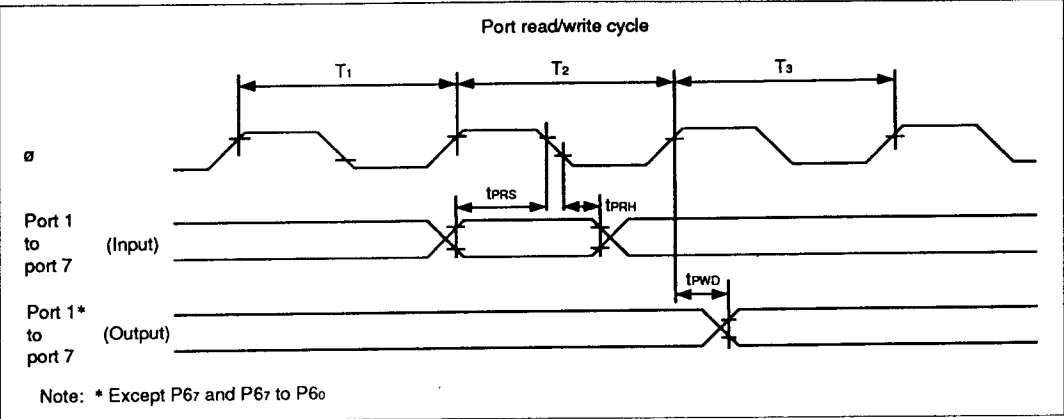

Figure 18-10 I/O Port Input/Output Timing
18.3.4 I/O Port Timing	Figure 18-10